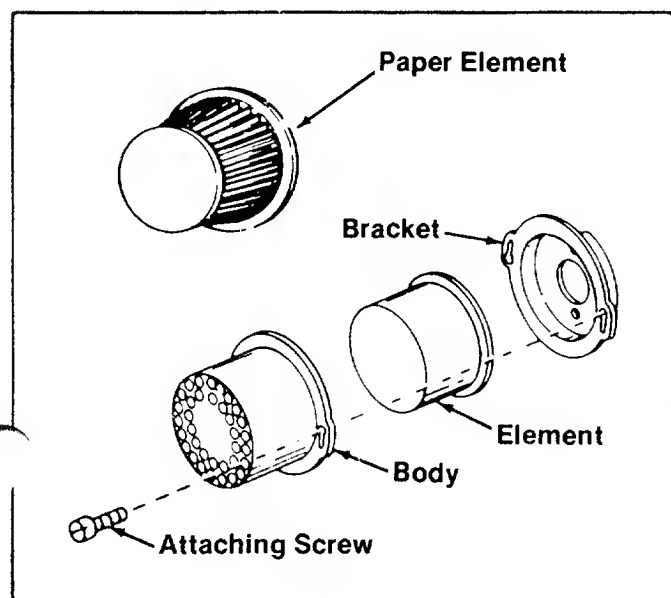

FIGURE 28
4. Air Cleaner. (See figure 28).